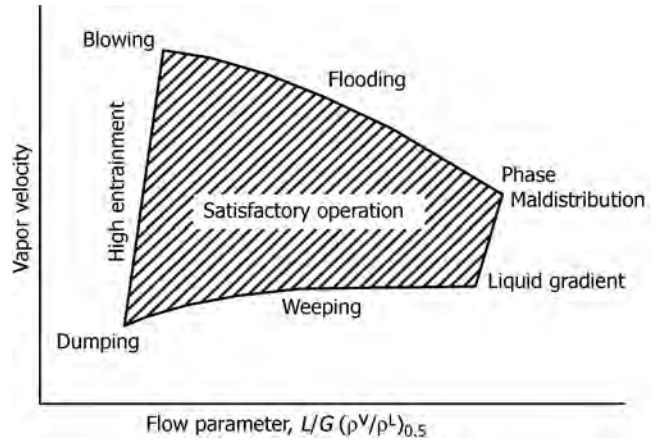

FIGURE 16.8 Generalized performance diagram for cross-flow trays.
- Figure 16.8 gives generalized performance diagram for cross-flow trays.